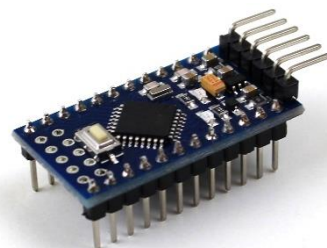

Figure 1: 328P, 5V, 16MHz Pro Mini
- These are common microcontrollers such as the one shown in Fig. 1. There are different versions available, with slightly different pinouts, but any of them should work.